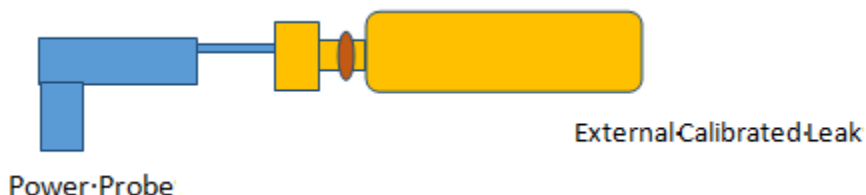

Figure 5-22 External Sniff Calibration Setup
2. Attach the mass flow meter to the sniffing gun through use of a KF to compression port adapter, 1/8" to NW25 (Agilent part number KCP250125), if using the power probe as the metering valve (Figure 5-22).